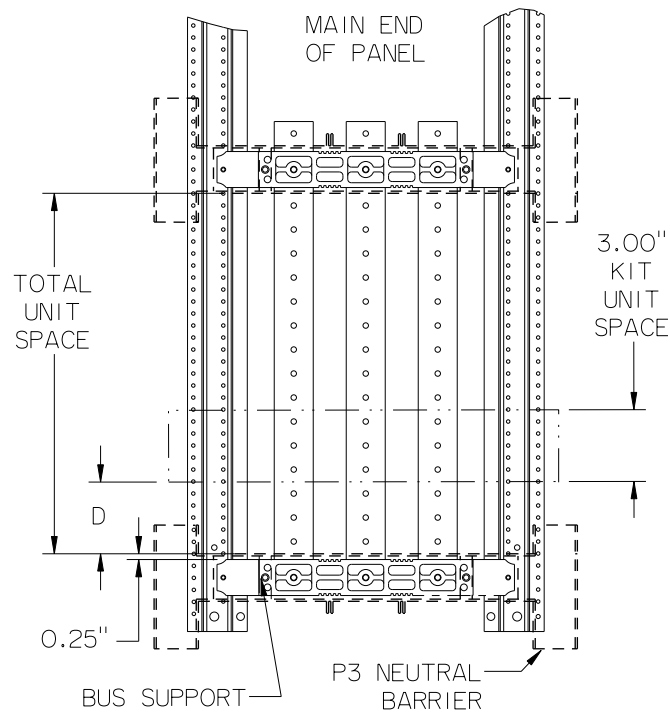

Figure 1
3. Refer to fig.1 - For taking unit space measurements in P3 panels, use the neutral barriers if present, or the bus supports in panels without neutrals. Note that unit space starts at the inner surface of a P3 neutral barrier and 0.25" from the inner surface of the P3 bus support.
4. This kit requires 3" of unit space. Determine the location where the kit is to be installed. The kit positioning dimension D in fig. 1, must be a multiple of 3" (0", 3", 6", 9", etc.). These measurements can be taken directly from a P3 bus support, add 0.25" to D (0.25", 3.25", 6.25", 9.25", etc.)